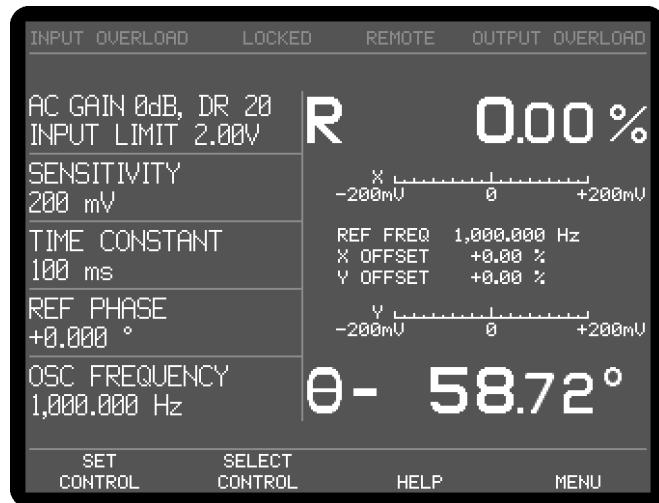

Figure 2-5, Main Display
- 7) Press one of the keys adjacent to the Auto Default menu item. This will set all of the instrument's controls and the display to a defined state. The display will revert to the Main Display, as shown below in figure 2-5, with the right-hand side showing the vector magnitude, R, and the phase angle, θ, of the measured signal in digital form, with two bar-graphs showing the X channel output and Y channel output expressed in millivolts. The left-hand side shows five instrument controls, these being the AC Gain in decibels, full-scale sensitivity, output time constant, reference phase and internal oscillator frequency. The resulting dynamic reserve (DR), in decibels, is also shown.